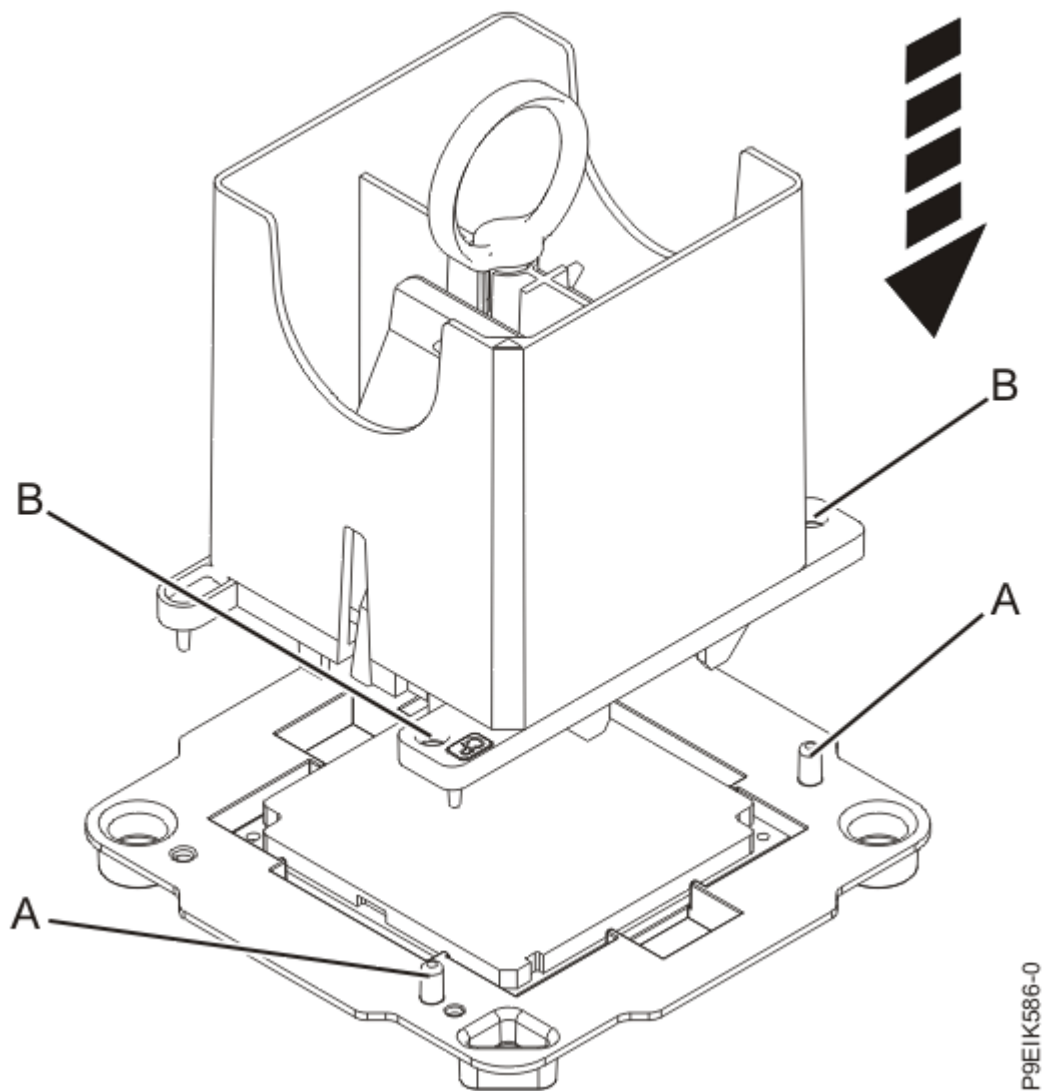

Figure 20. Lowering the removal tool onto the system processor module
- b) Lower the tool over the system processor module as shown in Figure 20 on page 23. Ensure that the beveled edge on the tool aligns with the beveled edge of the system processor module. Ensure that the two guide pins **(A)** are inserted into the alignment holes **(B)** on each side of the tool.